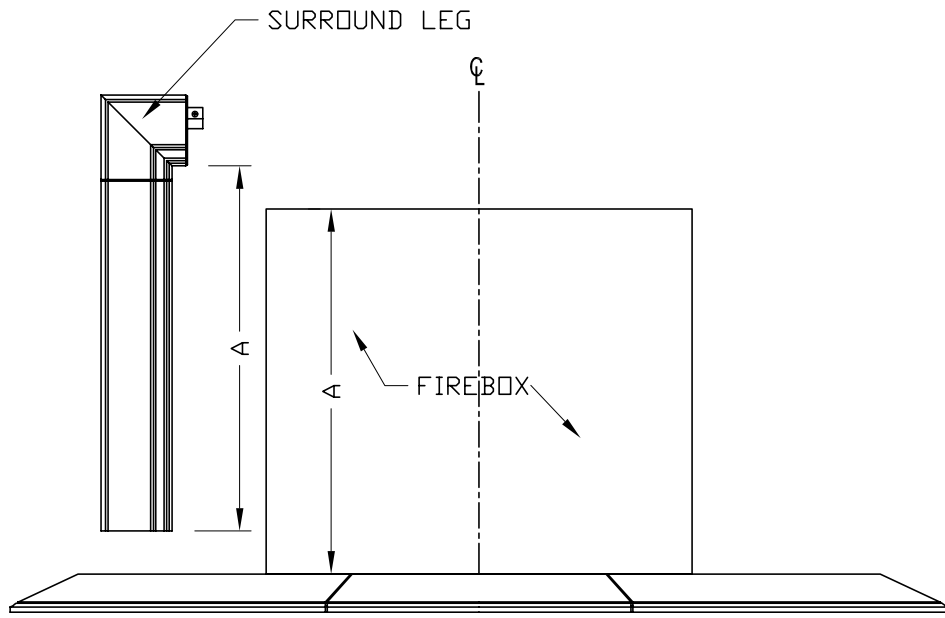

Fig. 1-1
- (a) Mark & cut bolexion legs at bottom to required height 'A' determined by firebox opening (Fig 1-1). Ensure height of each leg is "level" to each other.